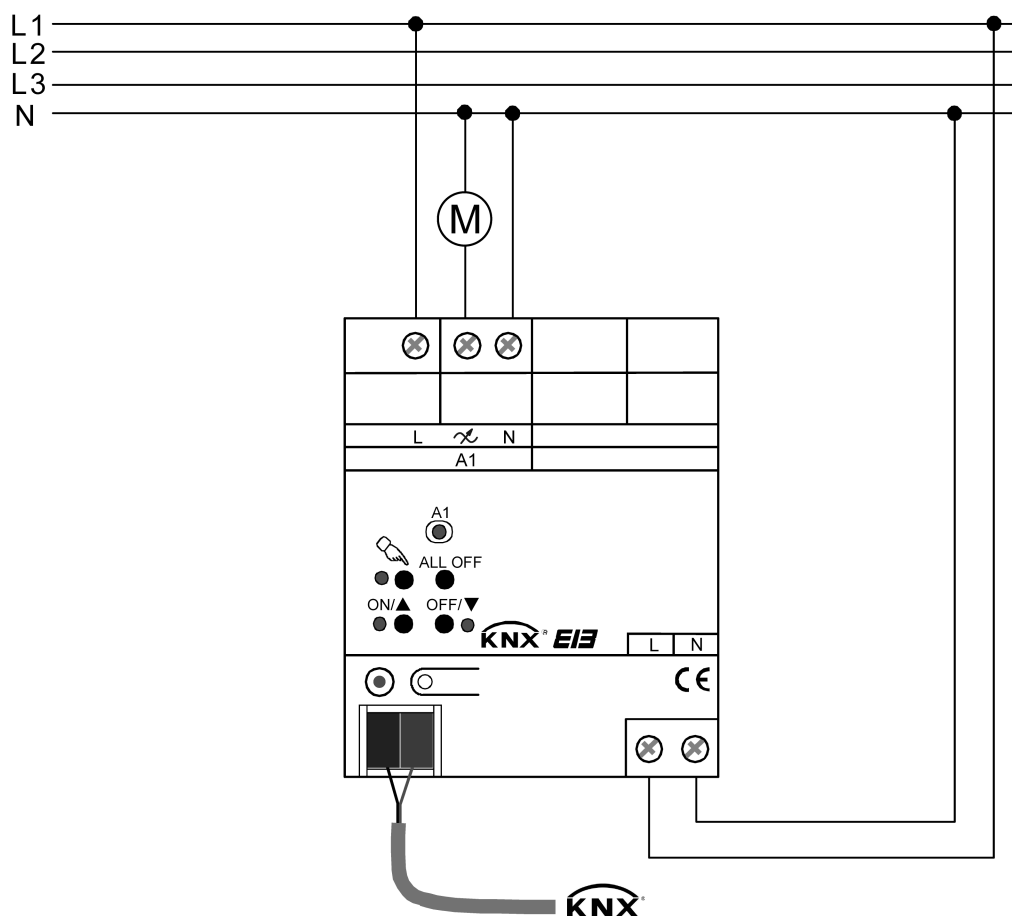

Figure 6: Electrical connection of single-phase electric motors
- Connect single-phase electric motors according to connection diagram (Figure 6).